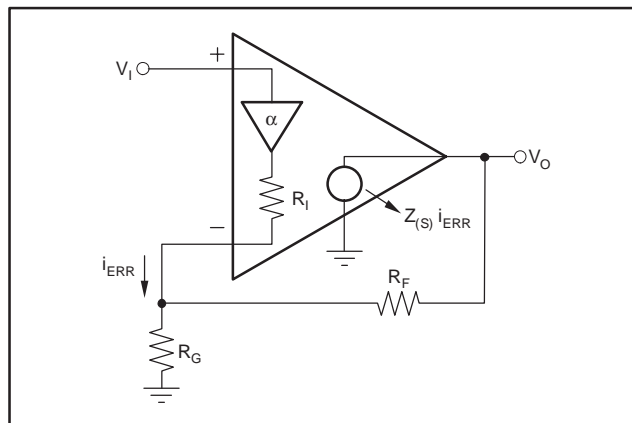

Figure 8. Recommended Feedback Resistor Versus Noise Gain
A current-feedback op amp like the OPA694 can hold an almost constant bandwidth over signal gain settings with the proper adjustment of the external resistor values. This is shown in the Typical Characteristic curves; the small-signal bandwidth decreases only slightly with increasing gain. Those curves also show that the feedback resistor has been changed for each gain setting. The resistor **values** on the inverting side of the circuit for a current-feedback op amp can be treated as frequency response compensation elements while their **ratios** set the signal gain. Figure 8 shows the small-signal frequency response analysis circuit for the OPA694.
A current-feedback op amp senses an error current in the inverting node (as opposed to a differential input error voltage for a voltage-feedback op amp) and passes this on to the output through an internal frequency dependent transimpedance gain. The Typical Characteristics show this open-loop transimpedance response. This is analogous to the open-loop voltage gain curve for a voltage-feedback op amp. Developing the transfer function for the circuit of Figure 8 gives Equation (1):